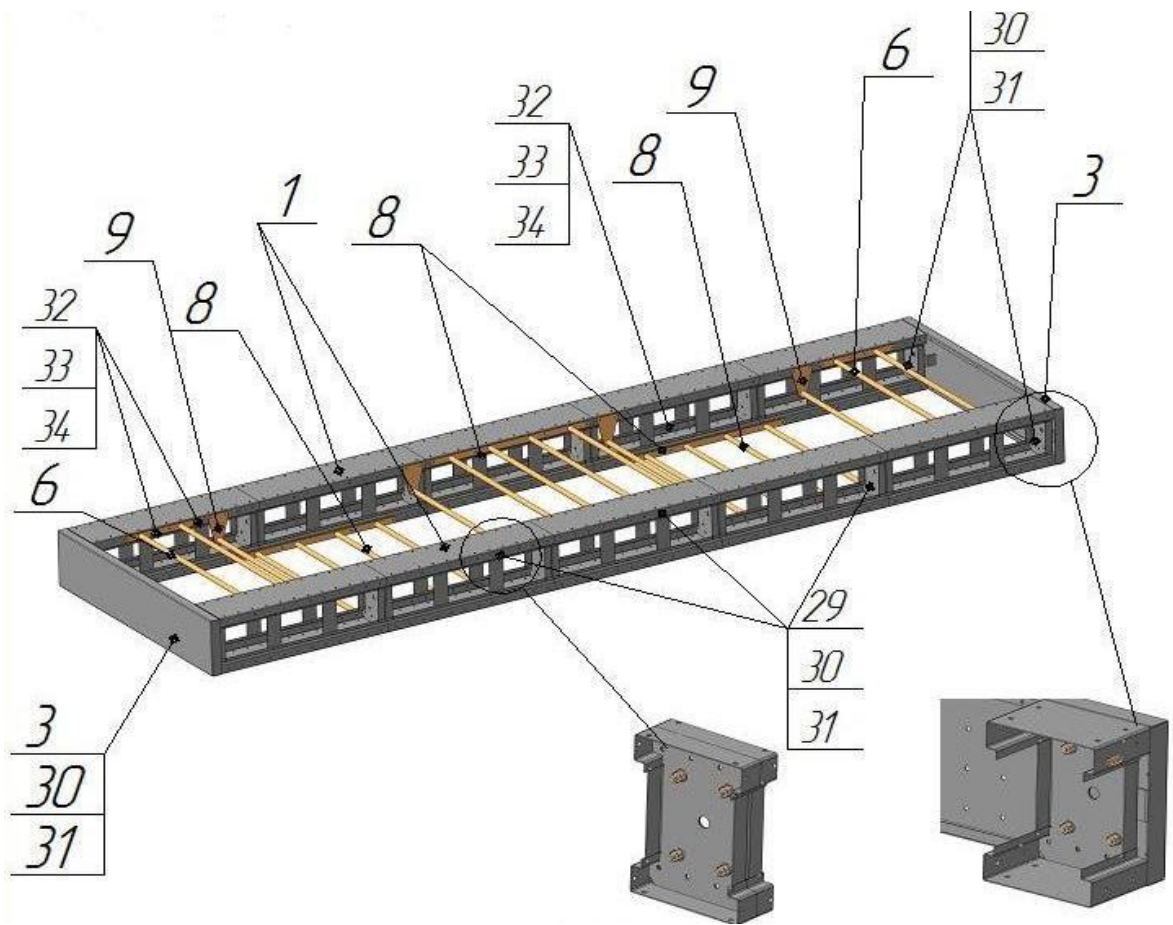

Fig. 3
3.6 On the flat surface assemble the upper part of Complex (see fig. 3) consisting of the assembly units - positions 1, 6, 8, 9, 3 (see Table 2) and metal hardware № 32, 33, 34, № 29, 30, 31. Do not tighten the threaded connections.